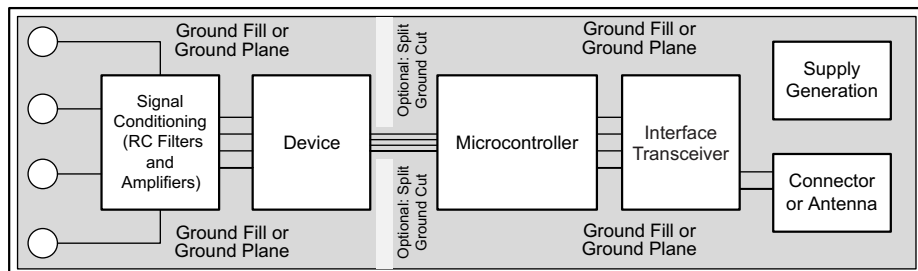

图 87. System Component Placement
Employing best design practices is recommended when laying out a printed-circuit board (PCB) for both analog and digital components. This recommendation generally means that the layout separates analog components [such as ADCs, amplifiers, references, digital-to-analog converters (DACs), and analog MUXs] from digital components [such as microcontrollers, complex programmable logic devices (CPLDs), field-programmable gate arrays (FPGAs), radio frequency (RF) transceivers, universal serial bus (USB) transceivers, and switching regulators]. 图 87 shows an example of good component placement. Although 图 87 provides a good example of component placement, the best placement for each application is unique to the geometries, components, and PCB fabrication capabilities employed. That is, there is no single layout that is perfect for every design and careful consideration must always be used when designing with any analog component.